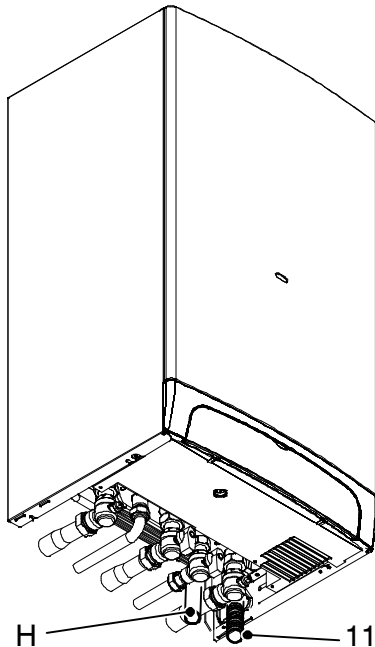

Fig. 6.4
- Connect the pipe H (Fig. 6.4) from the pressure relief valve to the safety discharge pipework.
- Fit the condensate drain 11 (Fig. 6.4) in the air brake connected to the drainage pipework. See also section 5.7 in this manual.